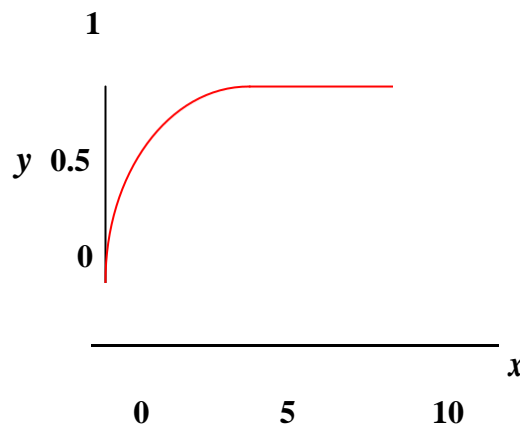

Fig. 5. Plot of $y = 1 - e^{-x}$
3.3.1. Exponential functions review: If $y = 3^x$, y is an exponential function of x . In many exponential functions, e (≈ 2.71828 , the “base of natural logarithms”) appears. In Fig. 5, $y = 1 - e^{-x}$. At $x = 0$, $y = 0$ ($e^0 = 1$). As x